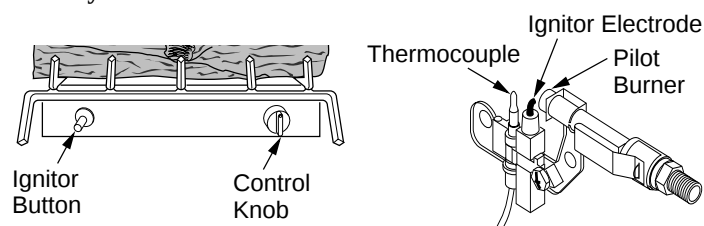

Figure 25 - Control Knob and Figure 26 - Pilot Ignitor Button Location
4. Wait five (5) minutes to clear out any gas. Then smell for gas, including near the floor. If you smell gas, **STOP!** Follow "B" in the safety information, column 1. If you don't smell gas, go to the next step.
5. Turn control knob counterclockwise  to the PILOT position. Press in control knob for five (5) seconds (see Figure 25).